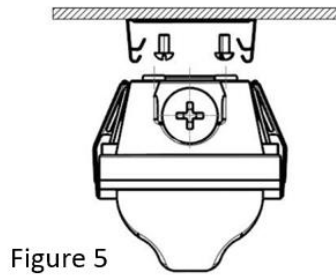

Figure 5
2. Align the fixture housing to the brackets and snap the luminaire into place. (See Fig.5)